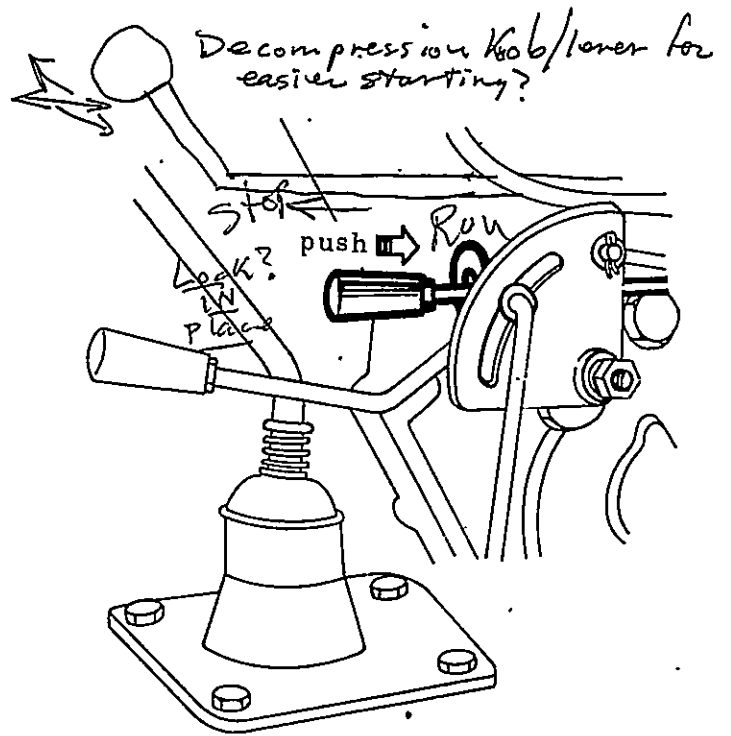

Fig. 3-7
d. Set the engine stopping lever at the supply position. (see Fig. 3-7)